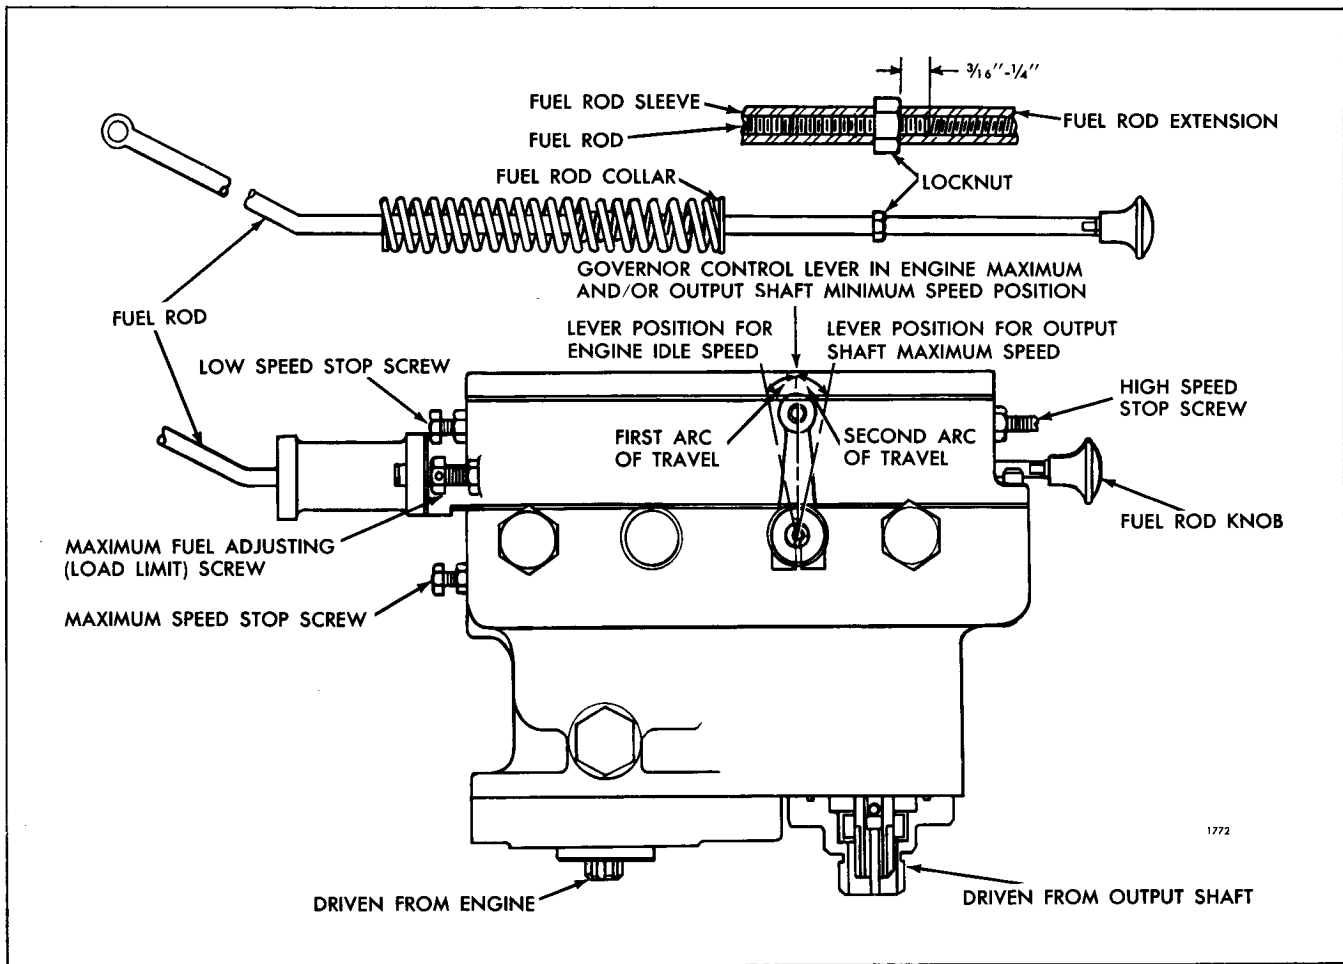
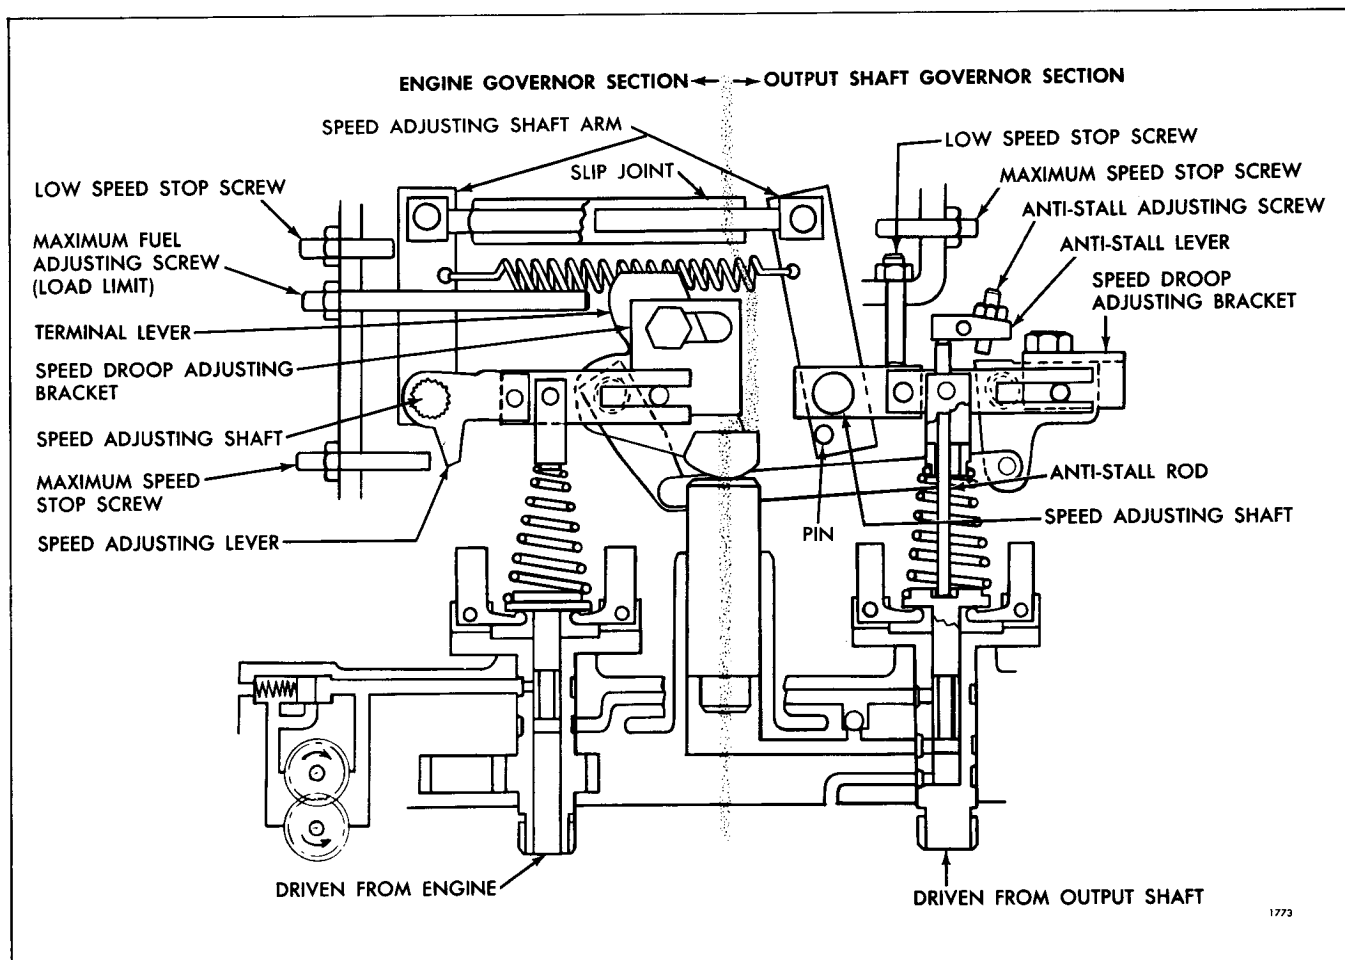

Fig. 1 - Single Lever Dual Hydraulic Governor
Fig. 2 - Schematic Diagram of Single Lever Governor Assembly
A dual hydraulic governor assembly is used on certain torque converter applications for the Series 71 engine. This governor consists of 2 sets of flyweights and pilot valve assemblies that are interconnected to operate a single servo piston. One set of flyweights are driven by the engine. The other set is driven through a flexible shaft by the output shaft. The governor assembly used on a particular engine may have either single, Fig. 1, or dual, Fig. 3, speed control levers.
The single-lever type governor control lever is attached to the output shaft governor speed adjusting shaft, see Fig. 1. The engine and output shaft governor speed adjusting shaft arms are linked together by a "slip-joint" link as depicted in Fig. 2. The single governor control lever has two distinct arcs of travel. In the first arc of travel (used to get the r.p.m. at which the operator wishes the engine to run), the control lever moves the engine governor speed adjusting shaft arm between the engine idle and full speed positions. In the second arc of travel (used to set the r.p.m. at which the operator wishes the output shaft to run), the output shaft governor speed adjusting shaft arm "picks-up" the output shaft governor floating lever assembly by means of the pin located at the lower end of the arm. The movement of the governor control lever in the second arc of travel is opposed by the "slip-joint" linkage spring.
When it is necessary to stop the engine, pull outward (away from the engine) on the fuel rod knob, shown in Figs. 1 and 3.
Figures 2 and 4 give the nomenclature of the parts in their approximate location and relation to each other. The following adjustments are made with the valve cover off.
3. Loosen fuel rod lock nut and unscrew shut-down knob and rod extension. See inset Figs. 1 and 3.